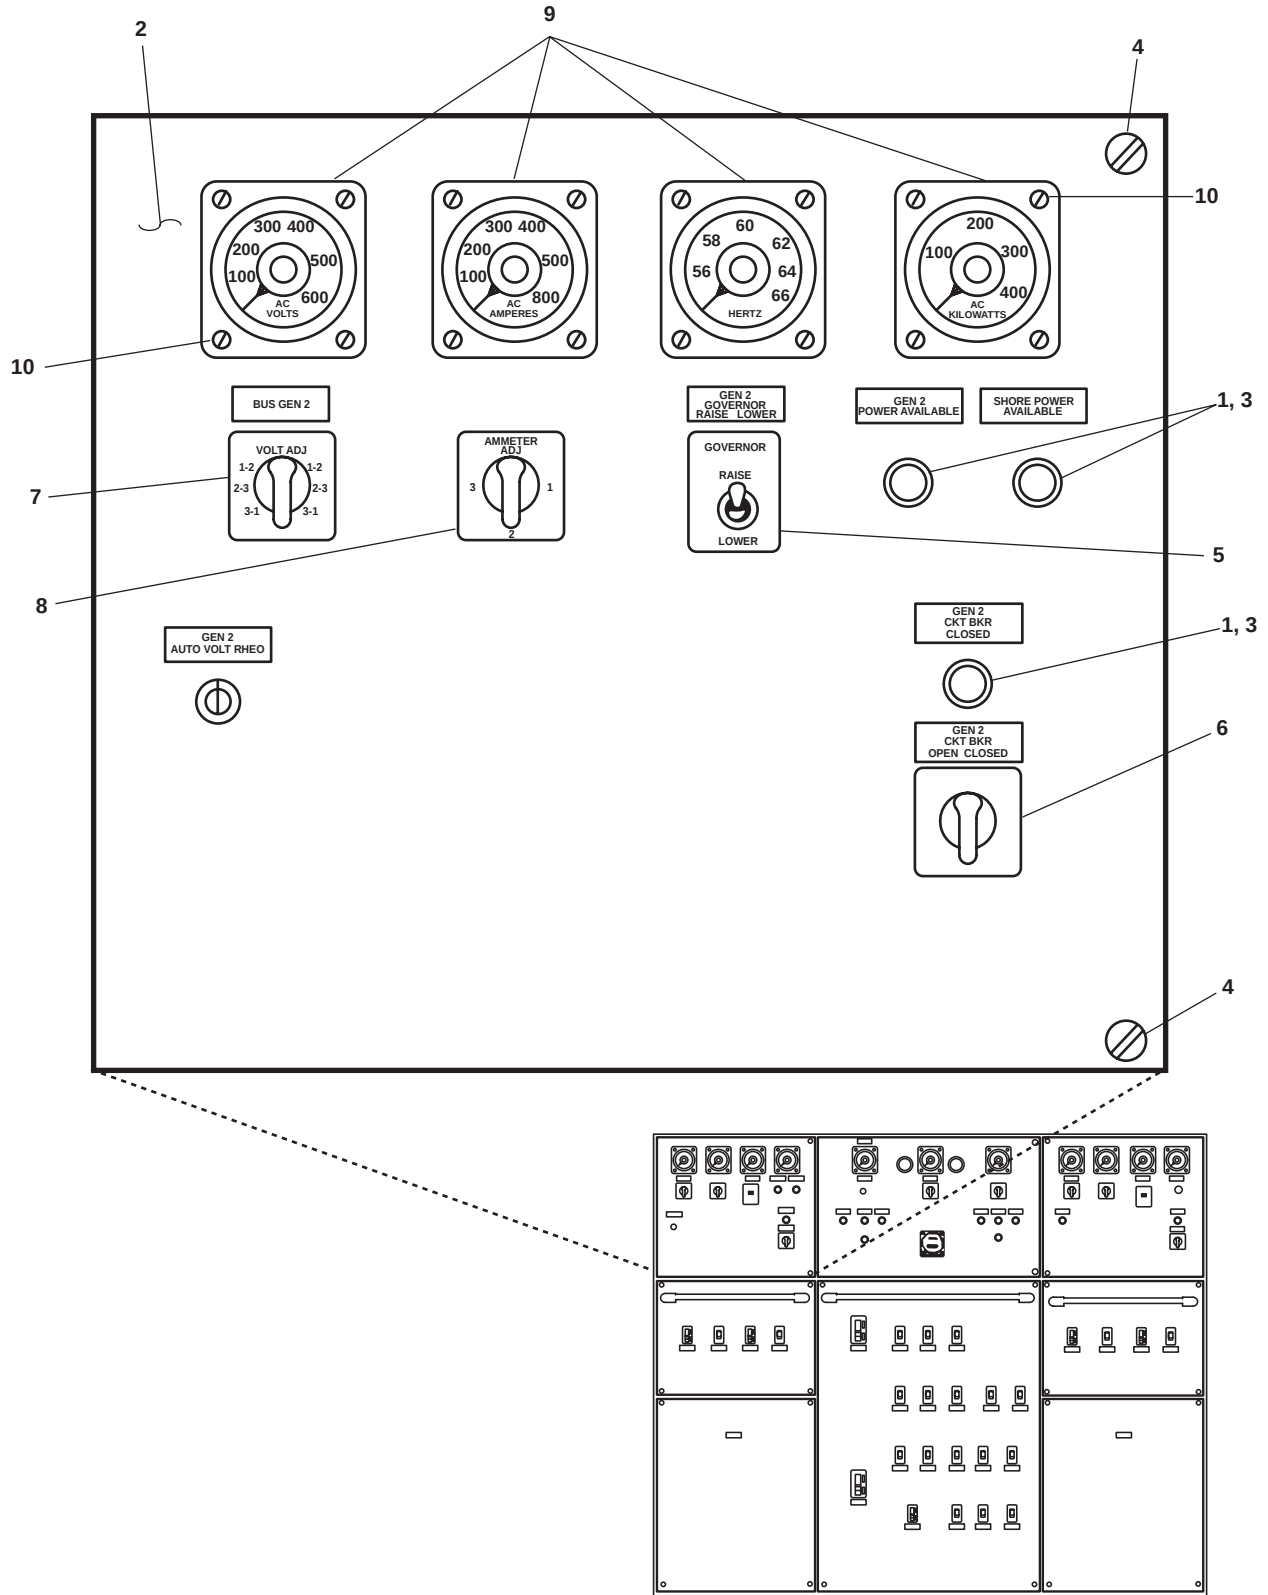

Figure 1. Main Switchboard Top Left Panel
1. Remove the indicator lens cover (figure 1, item 1) from the main switchboard panel (figure 1, item 2).
2. Remove the incandescent lamp (figure 1, item 3) from the main switchboard panel (figure 1, item 2).
1. Install the incandescent lamp (figure 1, item 3) in the main switchboard panel (figure 1, item 2).
2. Install the lens cover (figure 1, item 1) on the main switchboard panel (figure 1, item 2).
1. Loosen the captive screws (figure 1, item 4) on the main switchboard panel (figure 1, item 2).
2. Open the main switchboard panel (figure 1, item 2).
2. Use a multimeter to check for voltage at the applicable governor toggle switch (figure 1, item 5), circuit breaker switch (figure 1, item 6), and/or the applicable select switch (figure 1, items 7 and 8) to be replaced. If voltage is present, ensure that the appropriate circuit breakers and engine fuel oil valves have been secured, locked out, and tagged out (FM 55-502). If no voltage is present, continue with the procedure.
5. Remove the applicable circuit breaker/switch from the main switchboard panel (figure 1, item 2).
1. Install the replacement select switch (figure 1, items 7 and 8), the circuit breaker switch (figure 1, item 6), and/or the governor toggle switch (figure 1, item 5) through the rear of the main switchboard panel (figure 1, item 2).
2. Use a multimeter to check for voltage at the applicable meter (figure 1, item 9). If voltage is present, ensure that the appropriate circuit breakers and engine fuel oil valves have been secured, locked out, and tagged out (FM 55-502). If no voltage is present, continue with the procedure.
3. Remove the four screws (figure 1, item 10) from the applicable meter (figure 1, item 9).